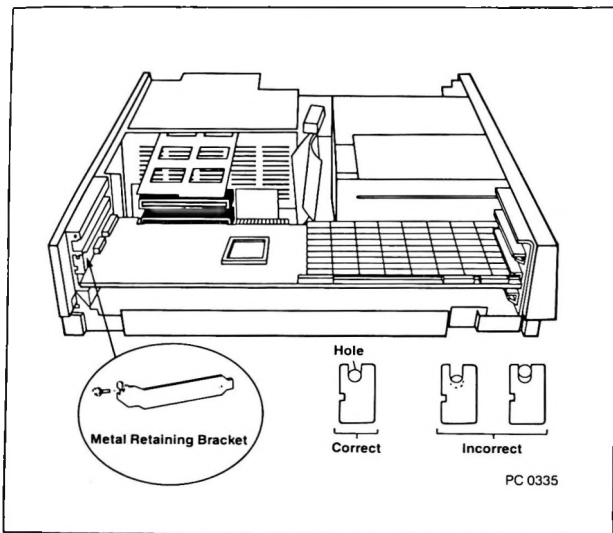

Figure 6-21 *Aligning and fastening the metal retaining bracket to the panel of a Model 30*
- 10 Align the opening in the top of the Above Board's metal retaining bracket with the hole in the top edge of the back panel of the system unit as shown in Figure 6-21. Fasten the metal retaining bracket to the panel with the screw you removed in step 2.